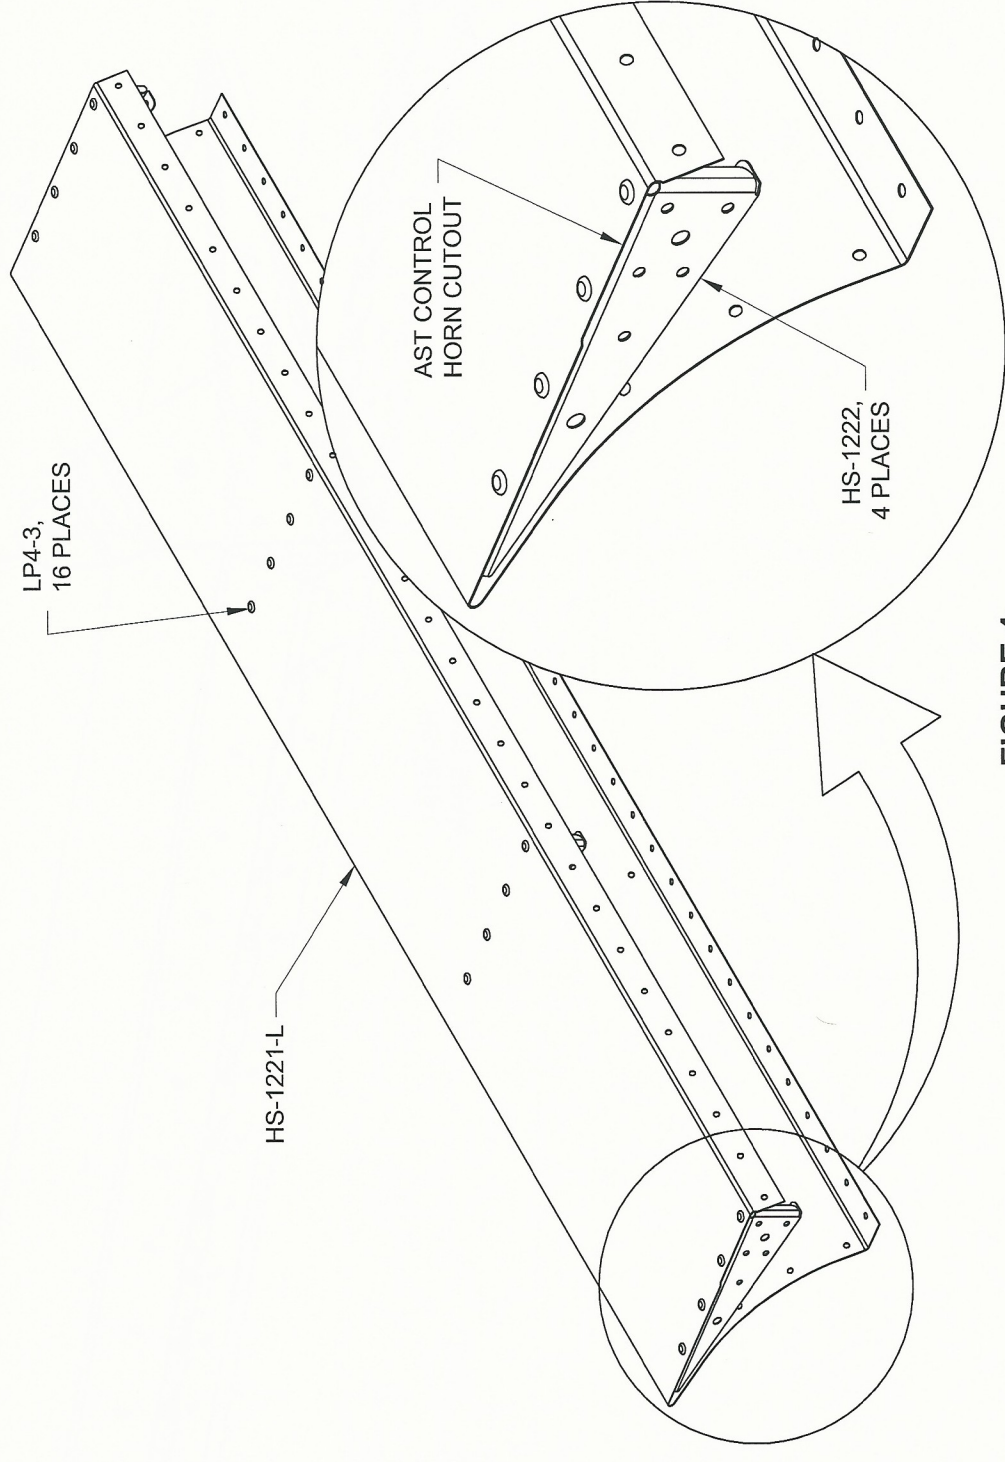

FIGURE 4:
NOTE: The top surface and inboard end of the HS-1221-L AST Skin can be identified by the AST Control Horn cutout, called out in Figure 4.
Step 5: Rivet only the top flange of the four HS-1222 AST Ribs inside the top surface of the HS-1221-L AST Skin per rivet call-out in Figure 4.